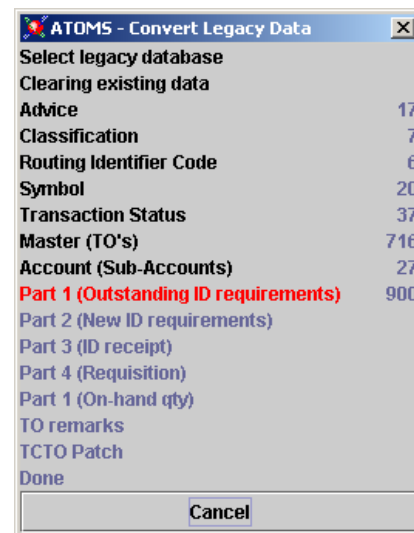

Figure 4-25. Conversion Progress
- 2) Select the directory that contains the old database files and press **Open**. The **Convert Legacy Data** progress window appears (Figure 4-25), moving the red highlight down the window as the conversion progresses.
- 3) Select the directory that contains the old database files and press **Open**. The **Convert Legacy Data** progress window appears (Figure 4-25), moving the red highlight down the window as the conversion progresses.